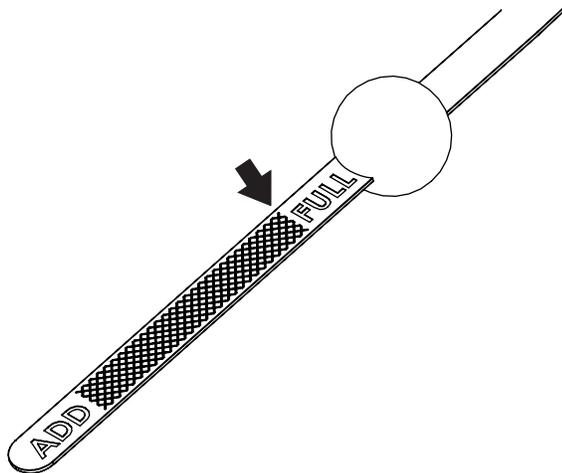

Figure 12
3. Remove the dipstick. Wipe it dry with a clean cloth and completely reinsert it into the dipstick tube. See figure 12, page 22.
- Fill the engine with the proper amount of engine oil. See Figure 12.